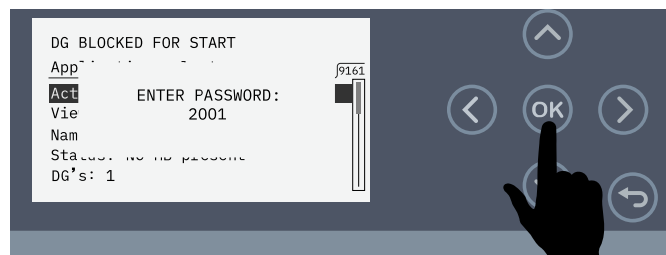

Figure 79. Enter Master Password (2001)
8. The master password is **2001**. Use the arrow buttons to enter the master password (Figure 79), then press the OK button.